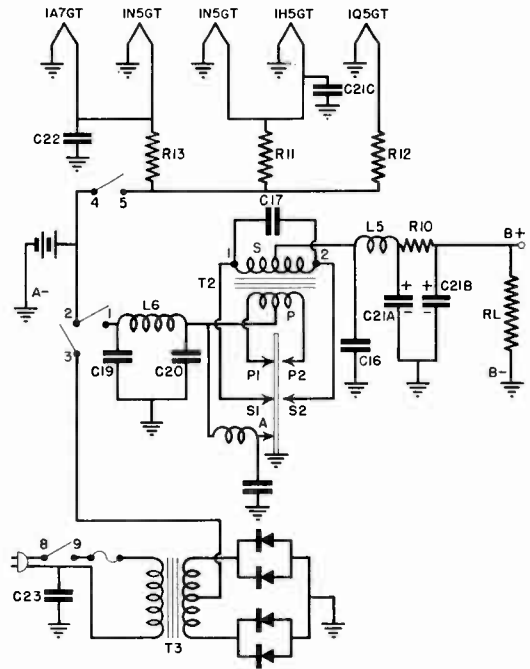

Fig. 3. Switch contacts 4-5 and 2-1-3 and 8-9 are closed in AC position.
*Switch in A.C. Position.* Figure 3 shows the switch set for a.c. and all the switch positions in this figure are closed, points 1-2-3 being joined as are points 4-5 and points 8-9.